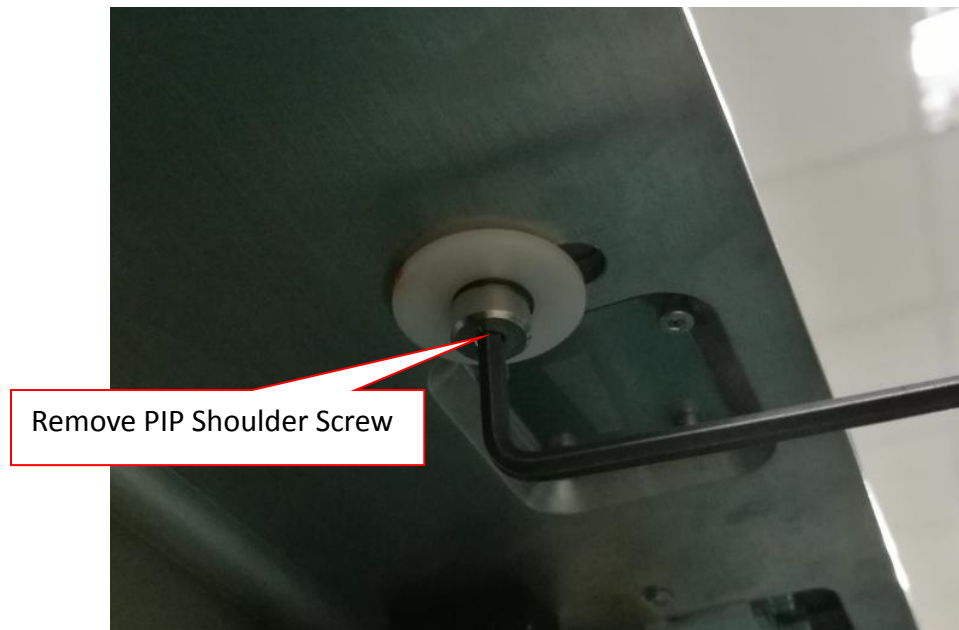

Figure 3 Shoulder Screw removal
6. Remove 1 x 8-32 thread (Inch Type) PIP Shoulder Screw from PC, Board Stop as shown in Figure 3.